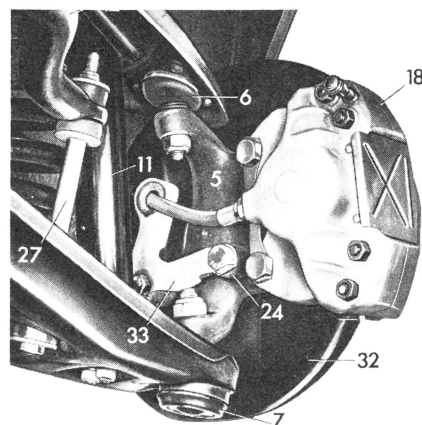

Fig. 4
- 1 Unscrew steering knuckle arm from steering knuckle (Fig. 4).